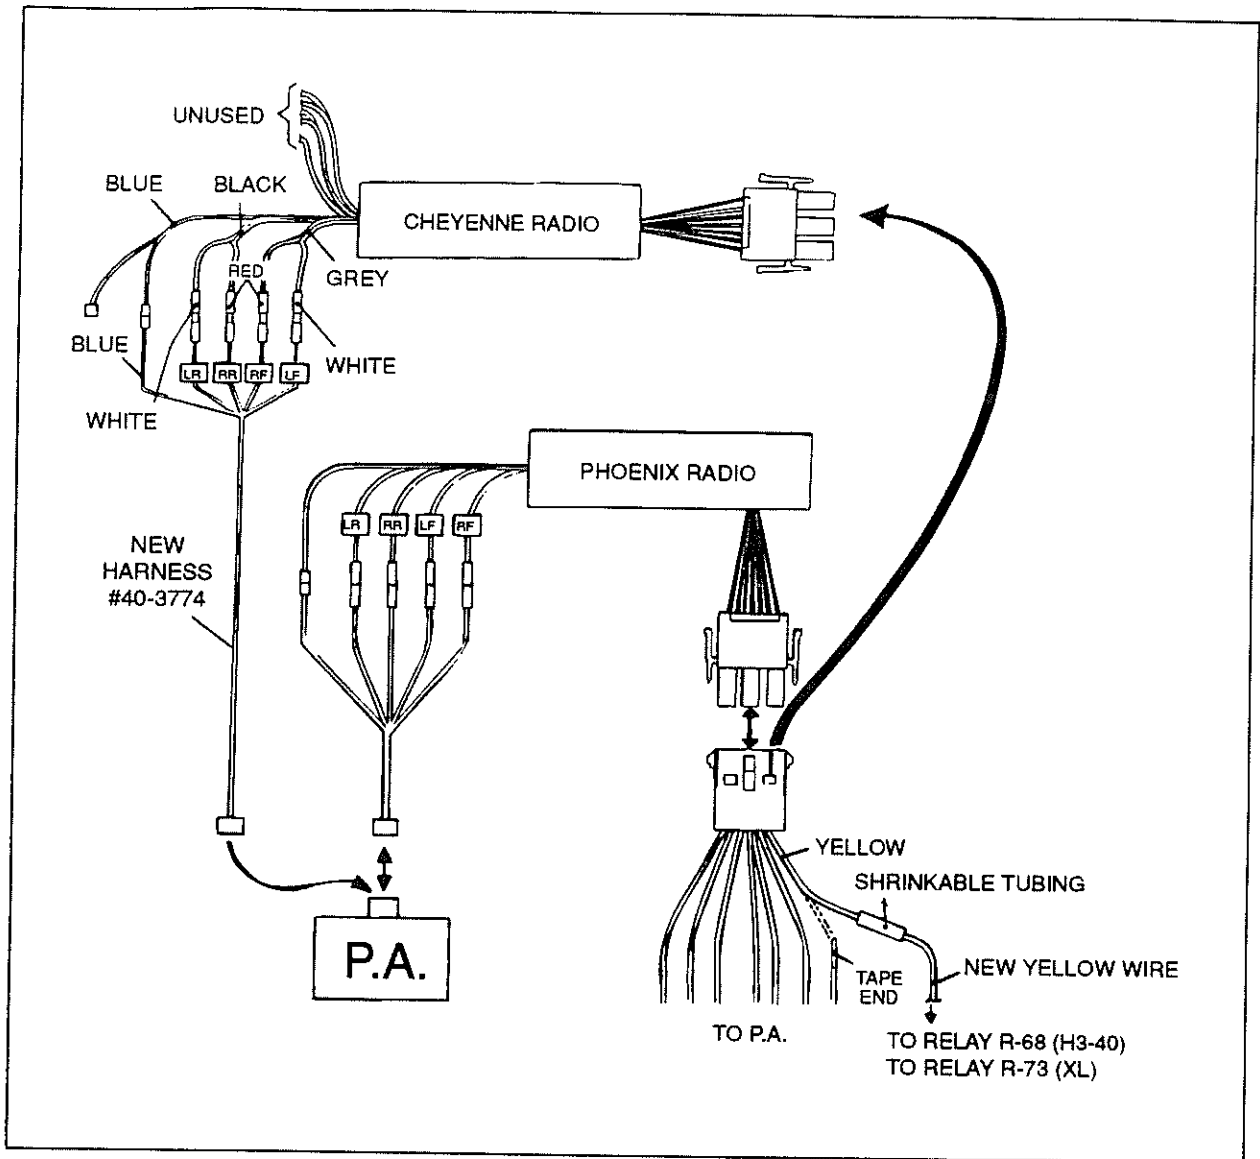

Fig. 1
1. Identify at back of "Phoenix" radio, the harness consisting of wires identified LR, RR, RF and LF, trace this harness up to its connection to the Public Address (PA) control box, disconnect it from this place then connect new wire harness #40-3774.
2. Connect each wire on the other end of new wire harness to the corresponding wire of "Cheyenne" radio according to the color code in figure 1.